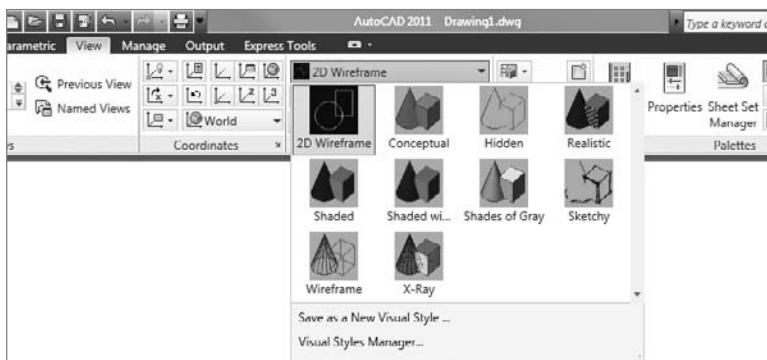

FIGURE 1.8 Selecting the 2D Wireframe visual style
- The large area in the middle of the screen is called the *drawing area*. It might need to be adjusted. On the Ribbon, select the View tab > Visual Styles panel > Visual Styles drop-down list, and select the 2D Wireframe option (see Figure 1.8).